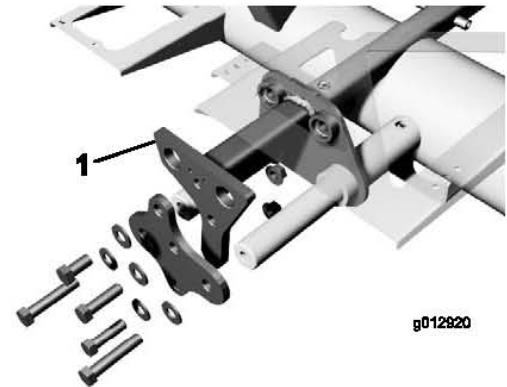

Figure 8
16. Remove all the bridge plate mounting bolts, washers and flange nuts (Figure 8). Remove the bridge plate.